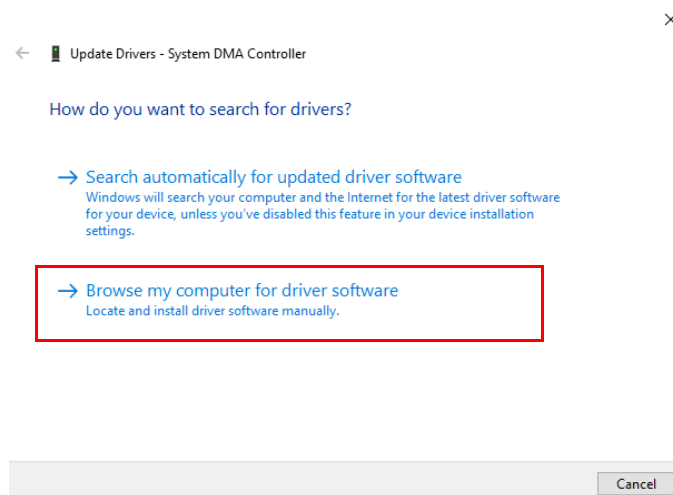

Figure 4-10. Update driver dialog
5. Click **Browse my computer for driver software**, see Figure 4-10.